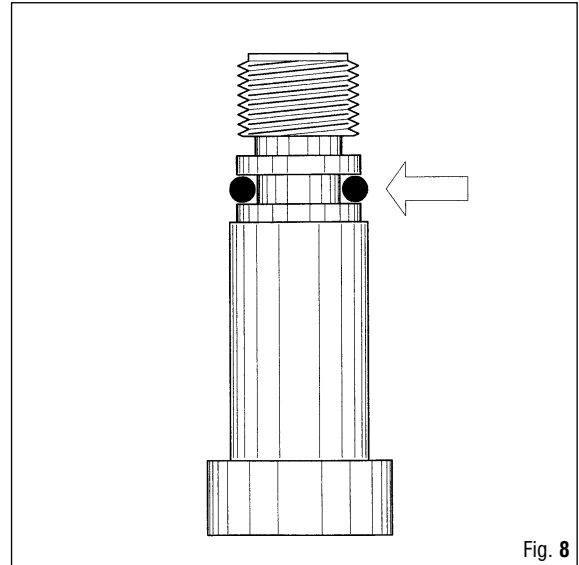

Fig. 8
Position the O-Ring (71) on the DIN fitting (48) (Fig. 8)